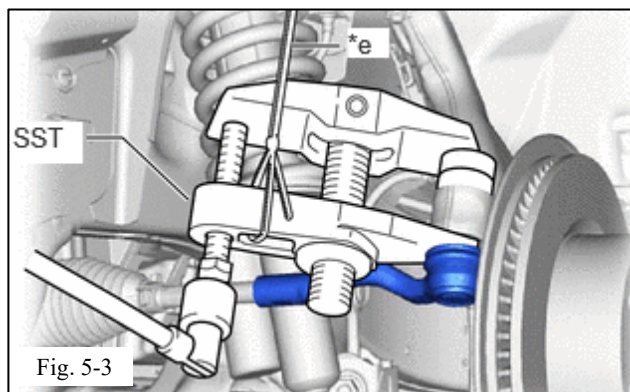

Fig. 5-3
- (c) Install 2 spacers (SST Spacer C) to the steering knuckle (Fig. 5-3).